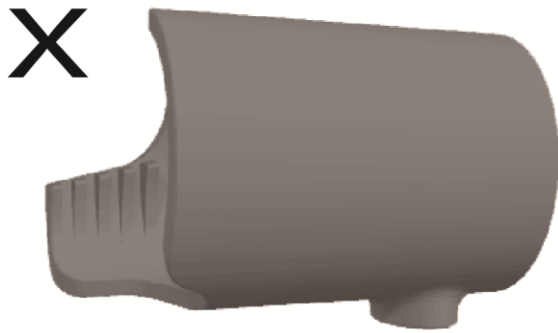

Figure 7. Recommended joystick position relative to head-fix tube.
7. Adjust height and position of mouse tube so that the tip of the extended joystick is at the level shown in Figure 7.